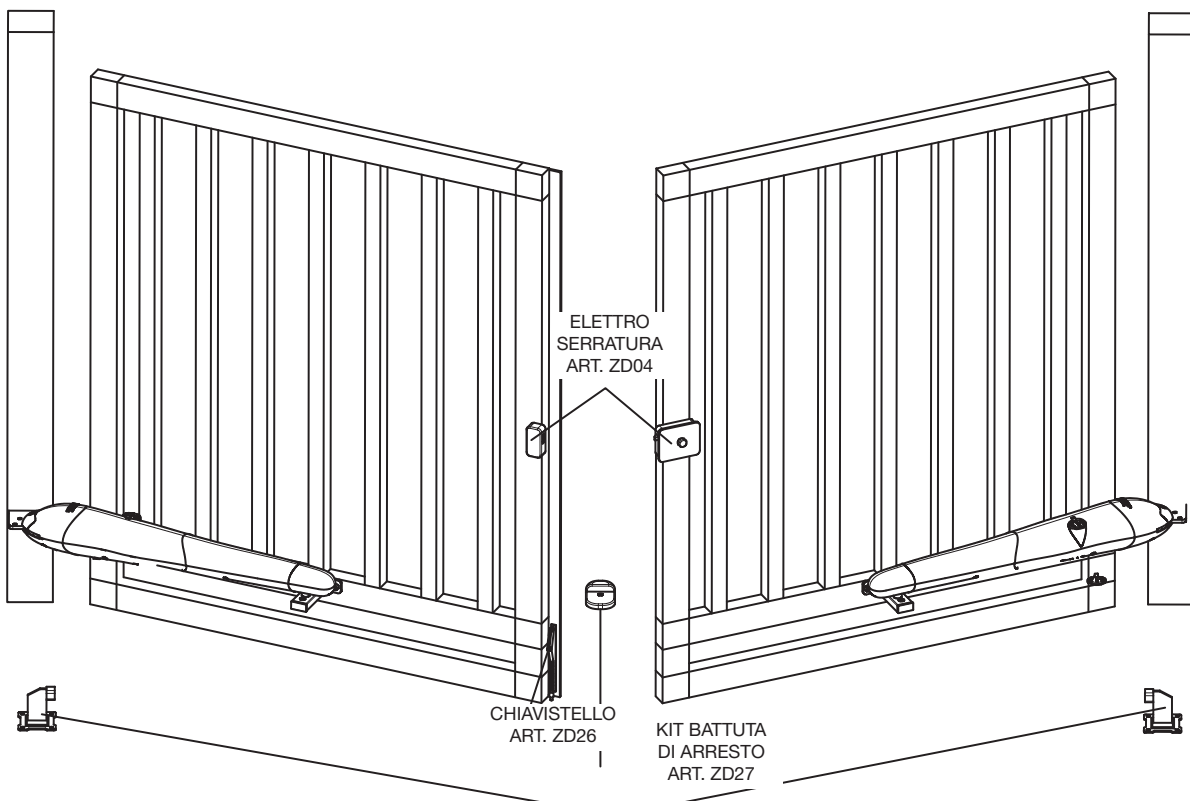

Fig. 9
Per un corretto funzionamento inserire, nell'anta, dei fermi di arresto per determinare la corsa in apertura e chiusura- fig. 9.
- 7) For a tight-fitting closure, the X value must be less than B – Fig. 9.
- 8) At the bottom of the actuator is a bracket which determines the travel stop point during gate opening. To ensure correct operation, fit end stops to the gate leaf in order to limit its closing and opening travel - fig. 9.